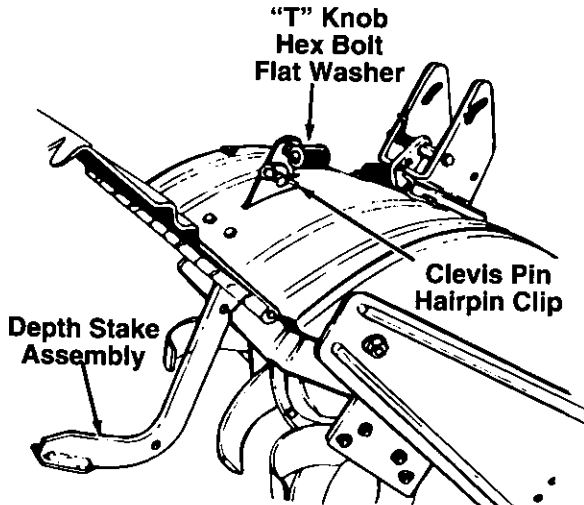

FIGURE 1.
1. Tip the tiller forward so it rests on engine base. See figure 1.
3. Raise the tine shield hinge flap assembly. Insert the depth stake assembly up through the tine shield assembly as shown in figure 1.